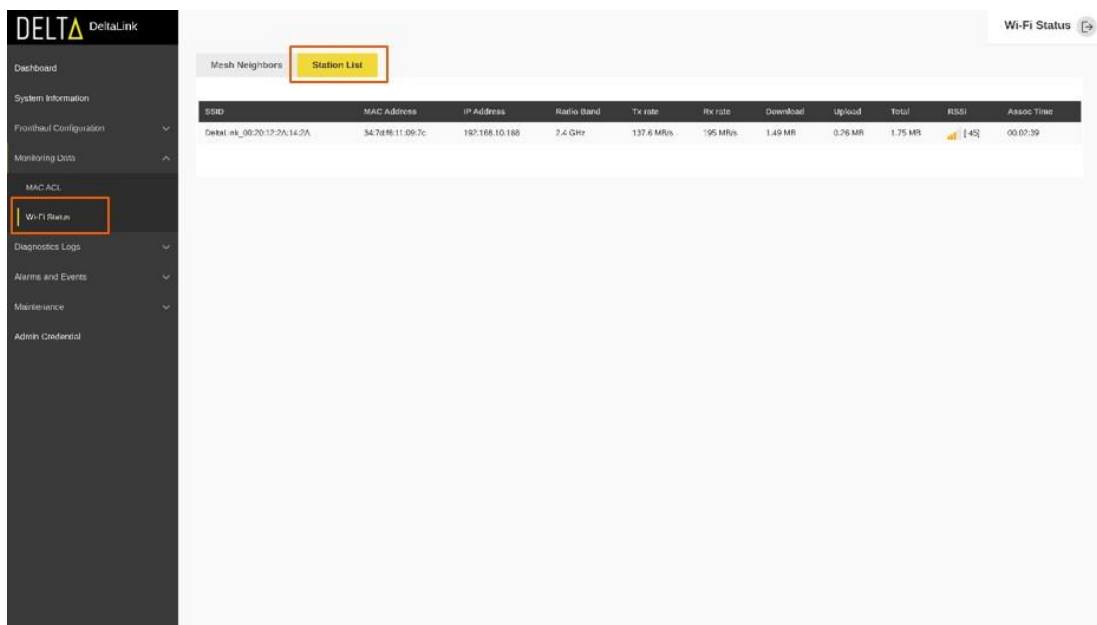

Figure 45 WiFi Status Station List
- c) Select the “Station List” tab to view a list of connected digital endpoint clients as shown in the Figure 45.